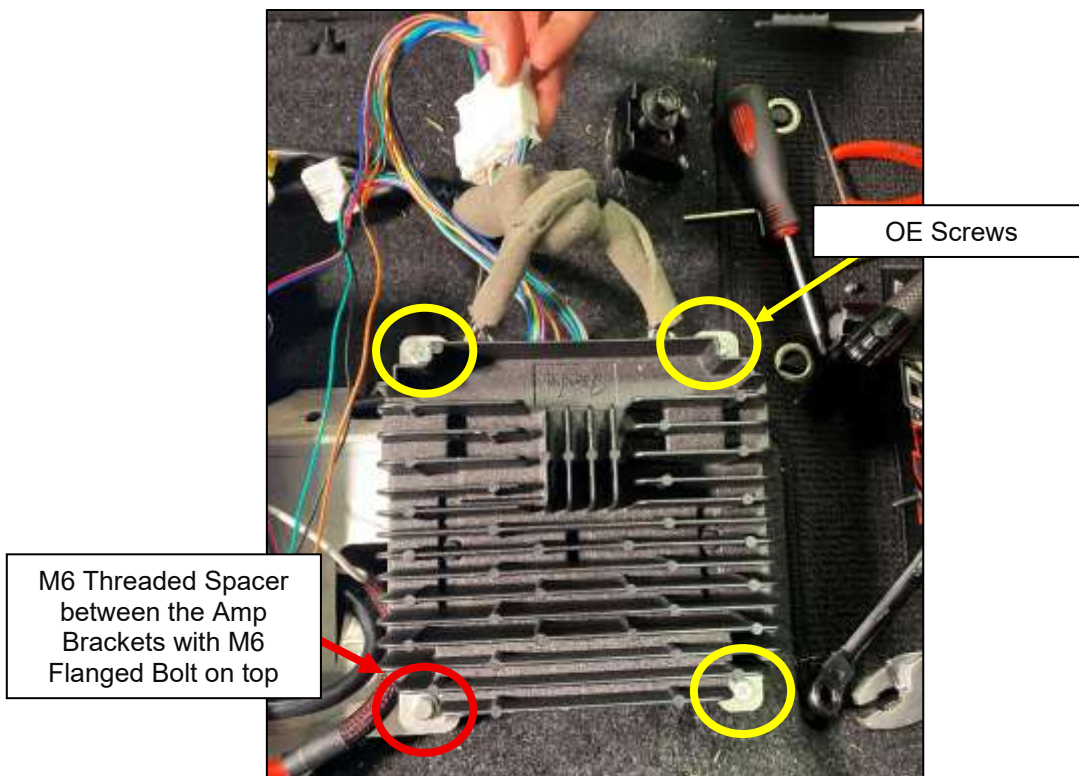

Figure 22
28. Secure the OE Fender Amp to the Bracket with (1) one M6 Flanged Bolt and (3) three OE Screws. The bottom left corner will use an M6 Threaded Spacer between the small Amp Bracket and the larger Amp Bracket and secured by the M6 Flanged Bolt. *Figure 22.*